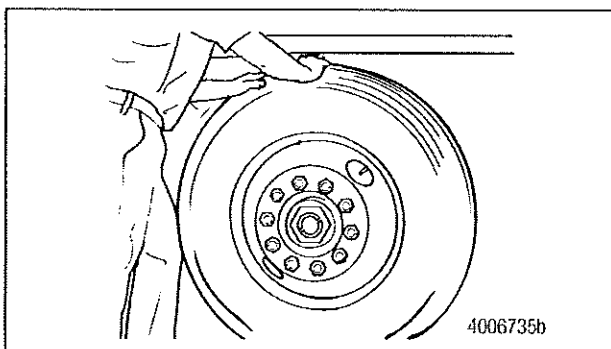

Figure 1
4. Grasp the tire and wheel-end assembly at the 12 and six o'clock positions. Check for vertical and horizontal movement. With your hands, apply approximately 50 lb (23 kg) of force to the assembly. You should not feel or see any looseness or movement. Figure 1.
3. Tighten the spindle end nut to **810-850 lb-ft (1100-1150 N·m)** while rotating the wheel and hub **COUNTERCLOCKWISE**. Do not back off the nut after tightening. Re-clamp and mark the spindle nut position relative to the spindle. For future service, use the marks to show if the nut has rotated. ①
5. Grasp the tire and wheel-end assembly at the 12 and six o'clock positions. Check for vertical and horizontal movement. With your hands, apply approximately 50 lb (23 kg) of force to the assembly. You should not feel or see any looseness or movement. Figure 1.